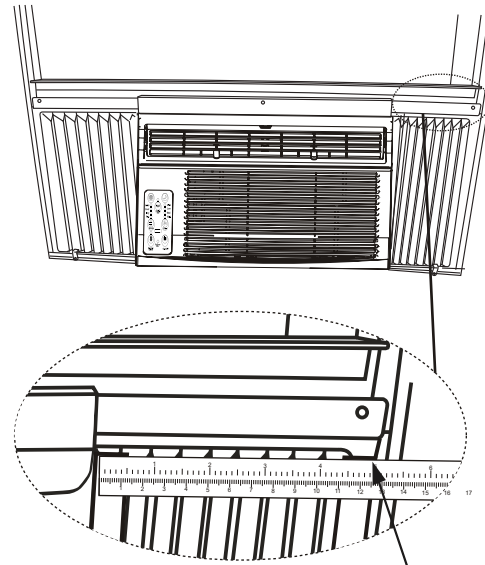

**Fig.9**
C. To secure lower sash in place, attach right angle sash lock with 3/4" (19mm) or 1/2" (12.7mm) screw as shown (Fig.9).